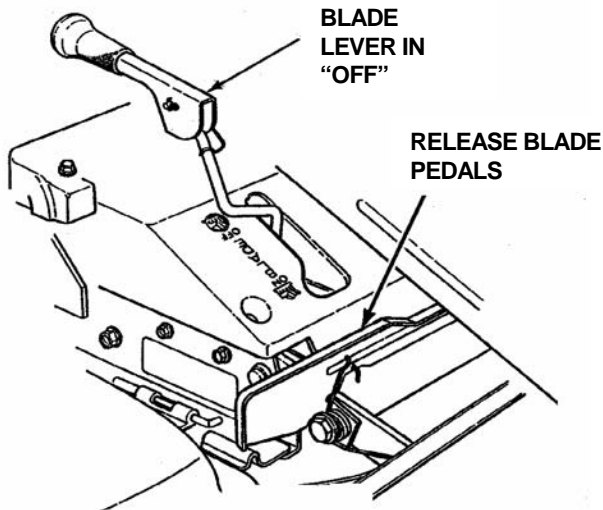
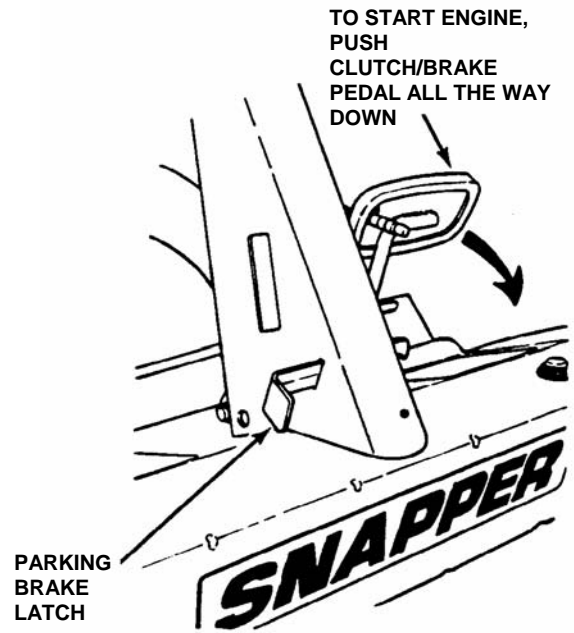
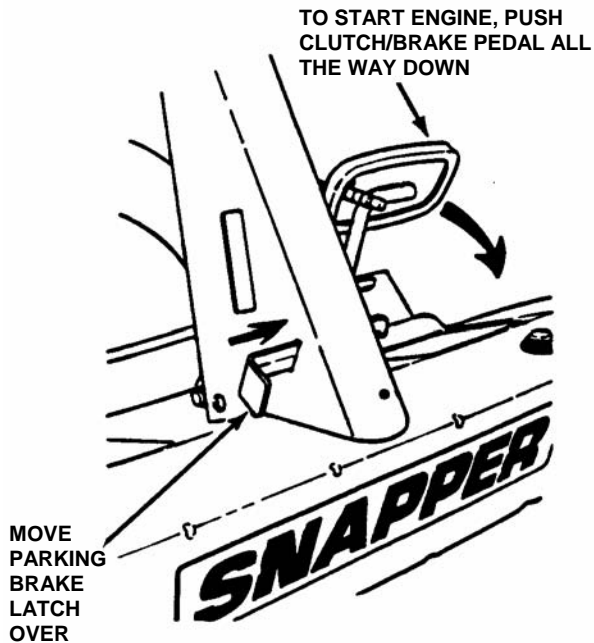

FIGURE 2.4
FIGURE 2.5
FIGURE 2.8
**IMPORTANT:** When the ignition key is turned to "START", the engine will turn over, but will not start unless the Clutch/Brake pedal is pressed all the way down, the Blade Lever is in the "Off" position (See Figure 2.5). The operator should be in the seat. Start engine as follows:
1. Move transmission shift lever to (N) Neutral position. **DO NOT** start engine with transmission shift lever in a drive position.
2. Make certain the Blade Lever is in the "Off" position. See Figure 2.4.
3. Press Clutch/Brake Pedal all the way down and hold while starting engine. See Figure 2.5.
**IMPORTANT:** When the ignition key is turned to "ON", and the recoil handle is pulled, the engine will turn over, but will not start unless the Clutch/Brake Pedal is pressed all the way down with Parking Brake engaged (See Figure 2.8) and the Blade Lever is in the "Off" position (See Figure 2.4). Start engine as follows:
1. Move transmission shift lever to (N) Neutral position. DO NOT start engine with transmission shift lever in a drive position.
3. Press Clutch/Brake Pedal all the way down, move Parking Brake Latch over and release the Clutch/Brake Pedal to set Parking Brake. See Figure 2.8.